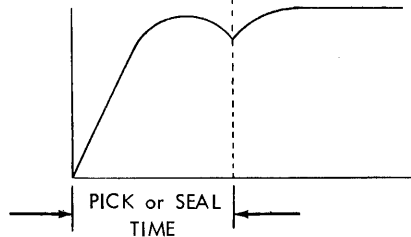

Figure 14. Waveform of Magnet Pick Time
1. Check the pick times of all magnets by observing (on an oscilloscope) the voltage rise across a 10-ohm, 1/2-watt resistor (part 321271) in series with the individual magnet coils, when a 48-volt pulse is applied to the coil. All pick times must be ten milliseconds or less, with the exception of U.C. shift magnet, red ribbon shift magnet and the keyboard-lock solenoid. The U.C. magnet and red ribbon shift magnet armatures must seal within 12 milliseconds maximum and the keyboard lock solenoid must pick in a maximum of 55 milliseconds. See Figure 14 for wave form of magnet pick time.